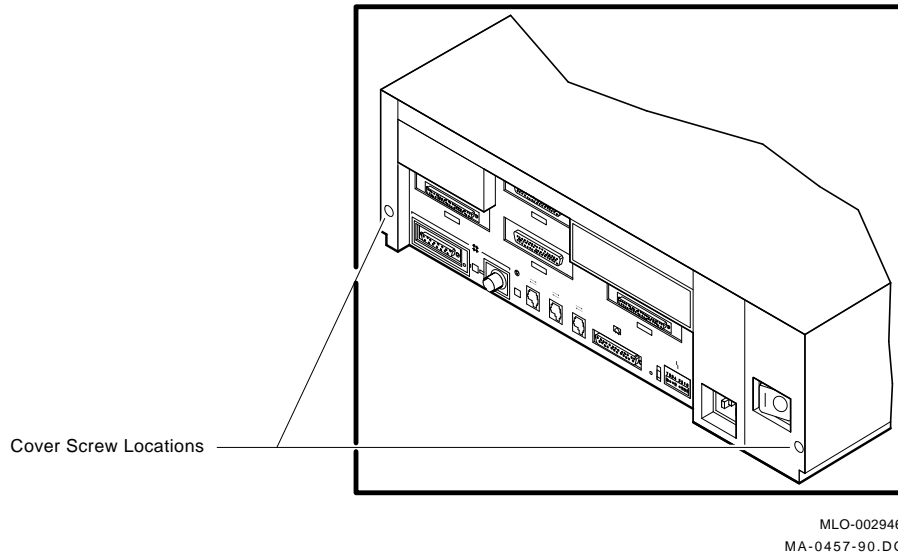

Figure 2-1 System Cover Removal
2. Loosen the two screws on the rear bezel of the system box (Figure 2-1).